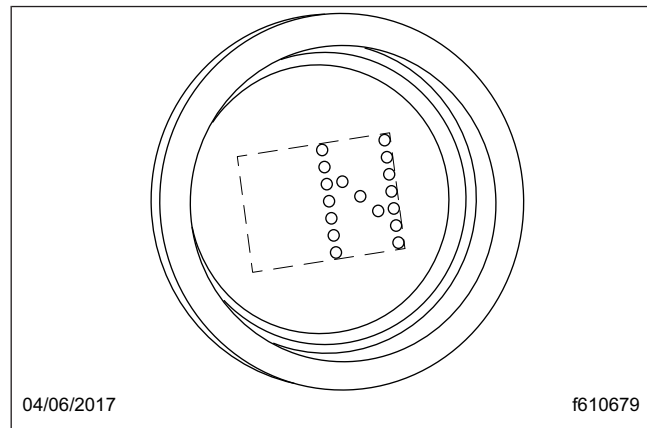

Fig. 15.10, Gear Indicator: Neutral
2. Wait for the gear indicator to show a solid N. See Fig. 15.10. When the N is solid (not flashing), the transmission controller is powered up.